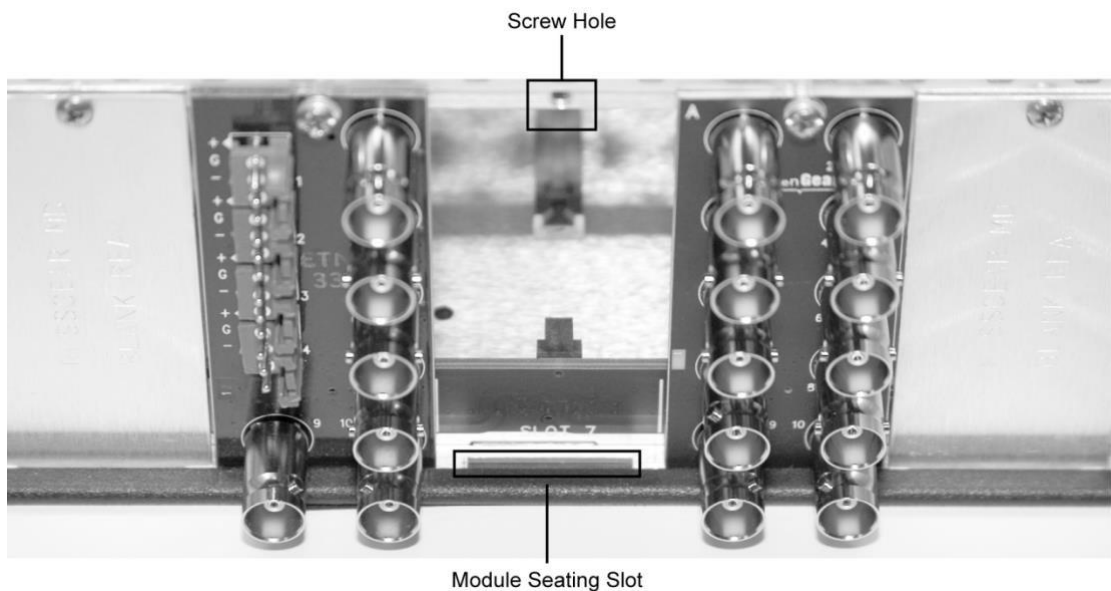

Figure 2.1 Rear Module Installation in a openGear series Frame (9930ADC-AES75-RG not shown)
3. Install the bottom of the Rear Module in the **Module Seating Slot** at the base of the frame’s back plane. (**Figure 2.1**)